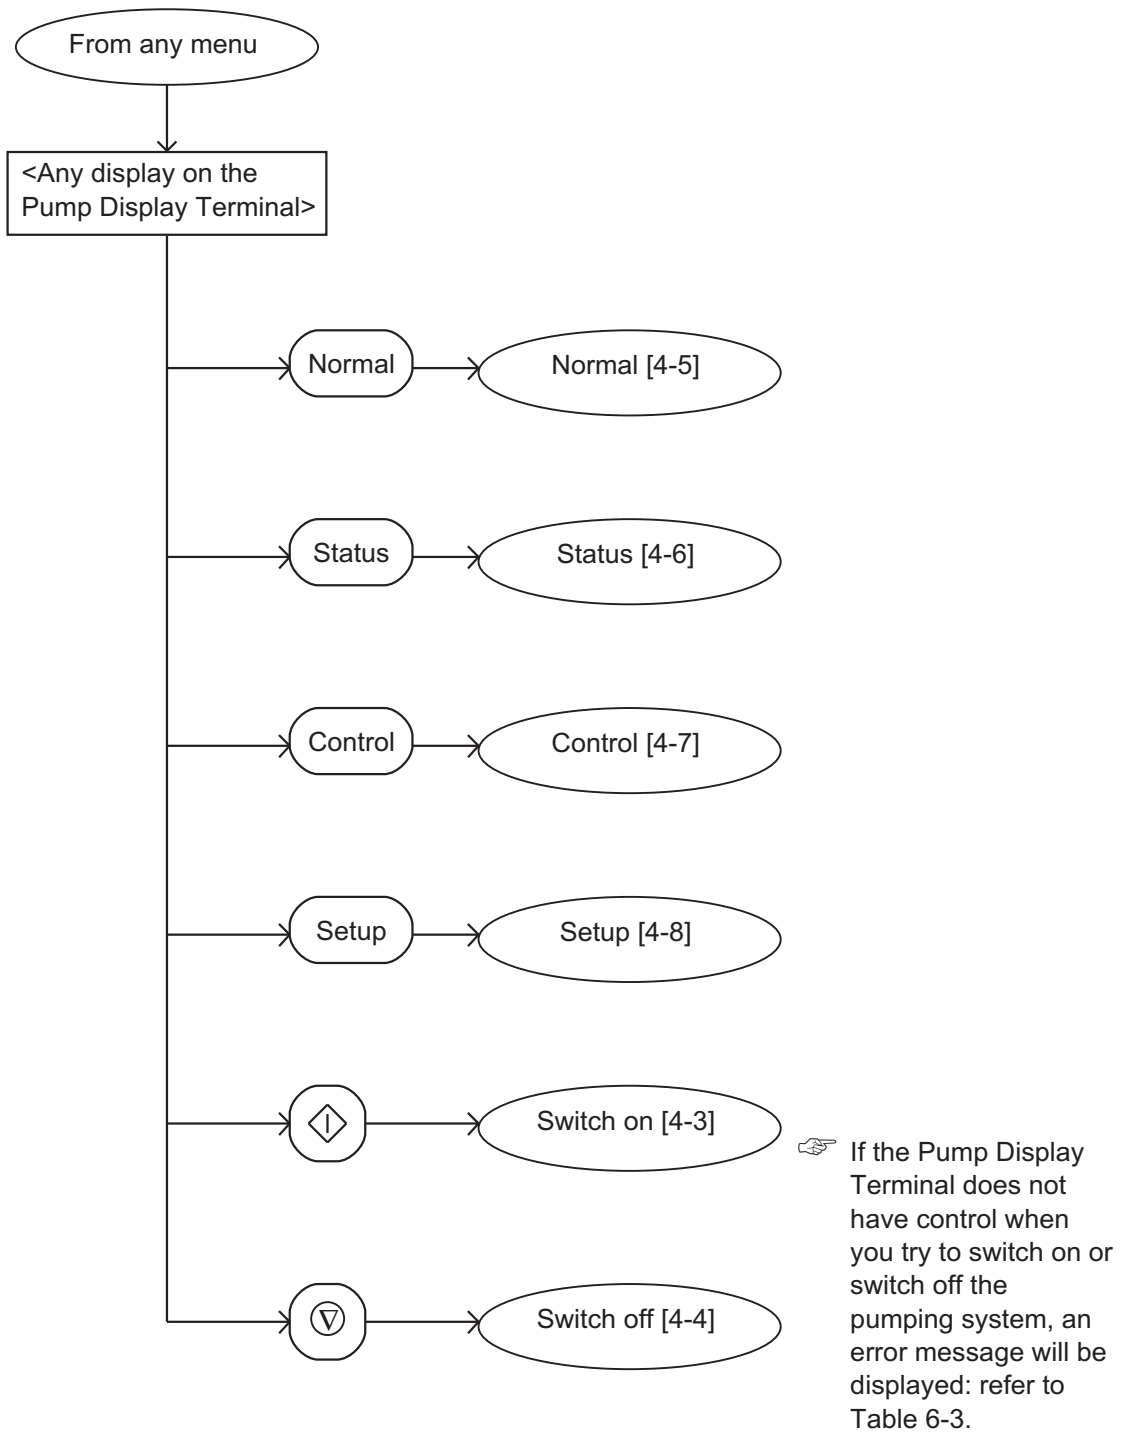
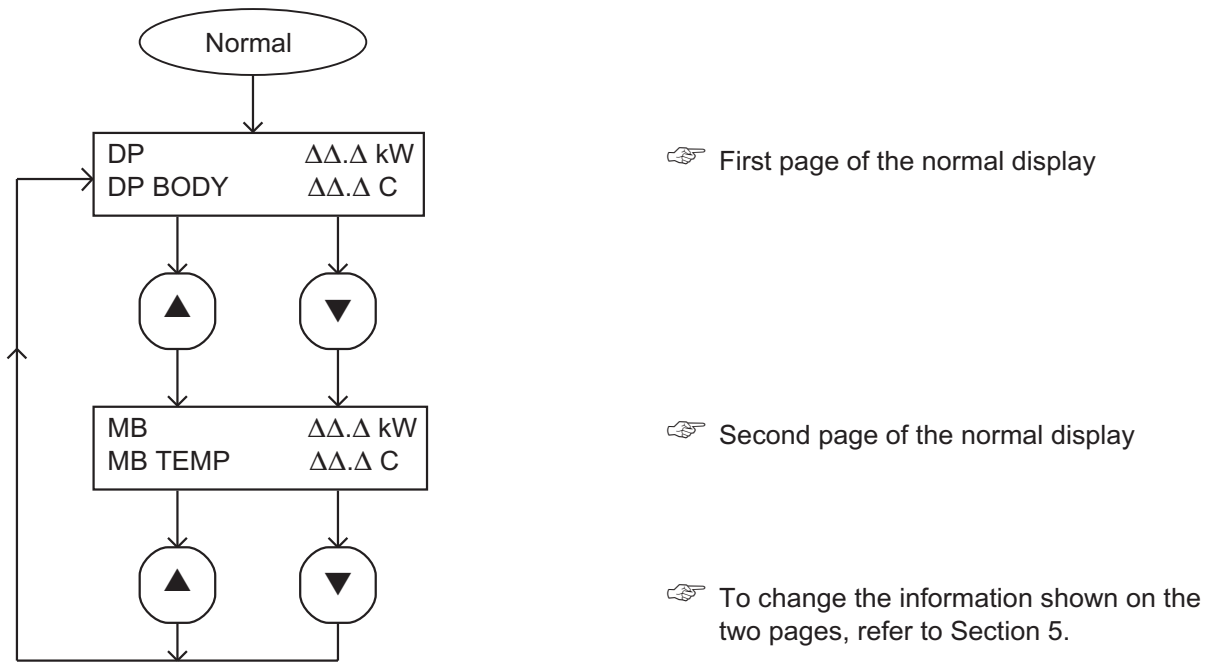

Figure 4-2 - Menu logic
Figure 4-5 - Normal menu
The menus used and the display messages shown on the Pump Display Terminal are described in the menu diagrams in Figures 4-2 to 4-19. The following symbols and conventions are used in the menu diagrams:
When you first switch on the iH system, the normal display is shown: see Figure 4-5. Refer to Figure 4-1. You can then press the On or Off button (1 or 10) or any of the four menu buttons (7) to enter the corresponding menu. Then, regardless of the current menu and display status, when you press any of these buttons, you exit the current menu and enter the corresponding new menu. Figure 4-2 shows this menu control logic.
In the menu diagrams in Figures 4-2 to 4-19, text shown without chevron brackets in the two-line display symbol is the actual text that will be shown on the display. In this text, the ' Δ ' symbol is used to show where a digit will be shown; the value of the digit depends on the sensor data or information you enter into the Pump Display Terminal.